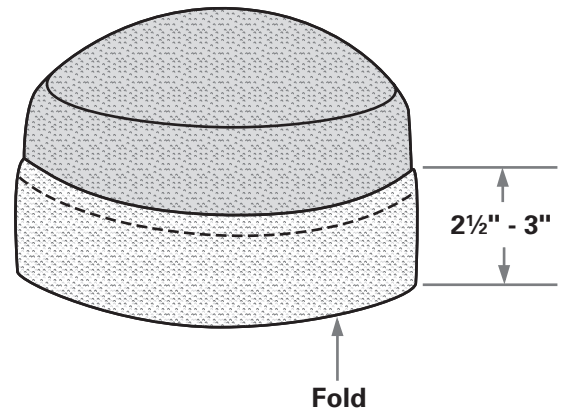

Fig. 3-8
12. Turn the hat right side out. Roll the lower edge of the side band up 2½ inches to 3 inches (6.5 cm to 7.5 cm). (Fig. 3-8)